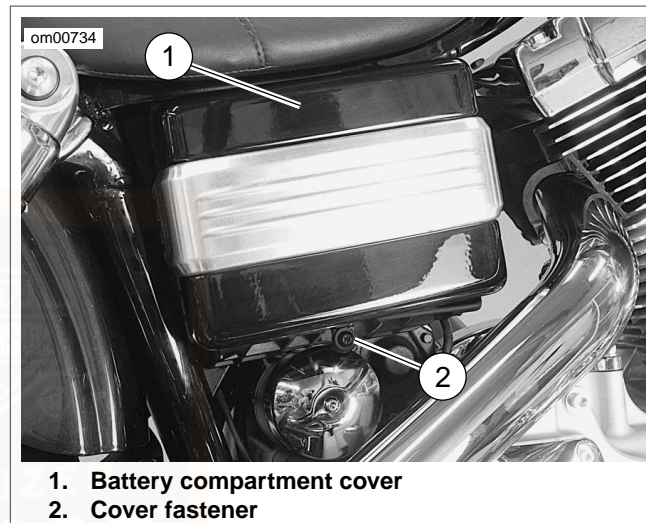

Figure 48. Battery Compartment: Dyna Models
1. See Figure 48. Remove the fastener under the battery cover on the right side of the motorcycle.